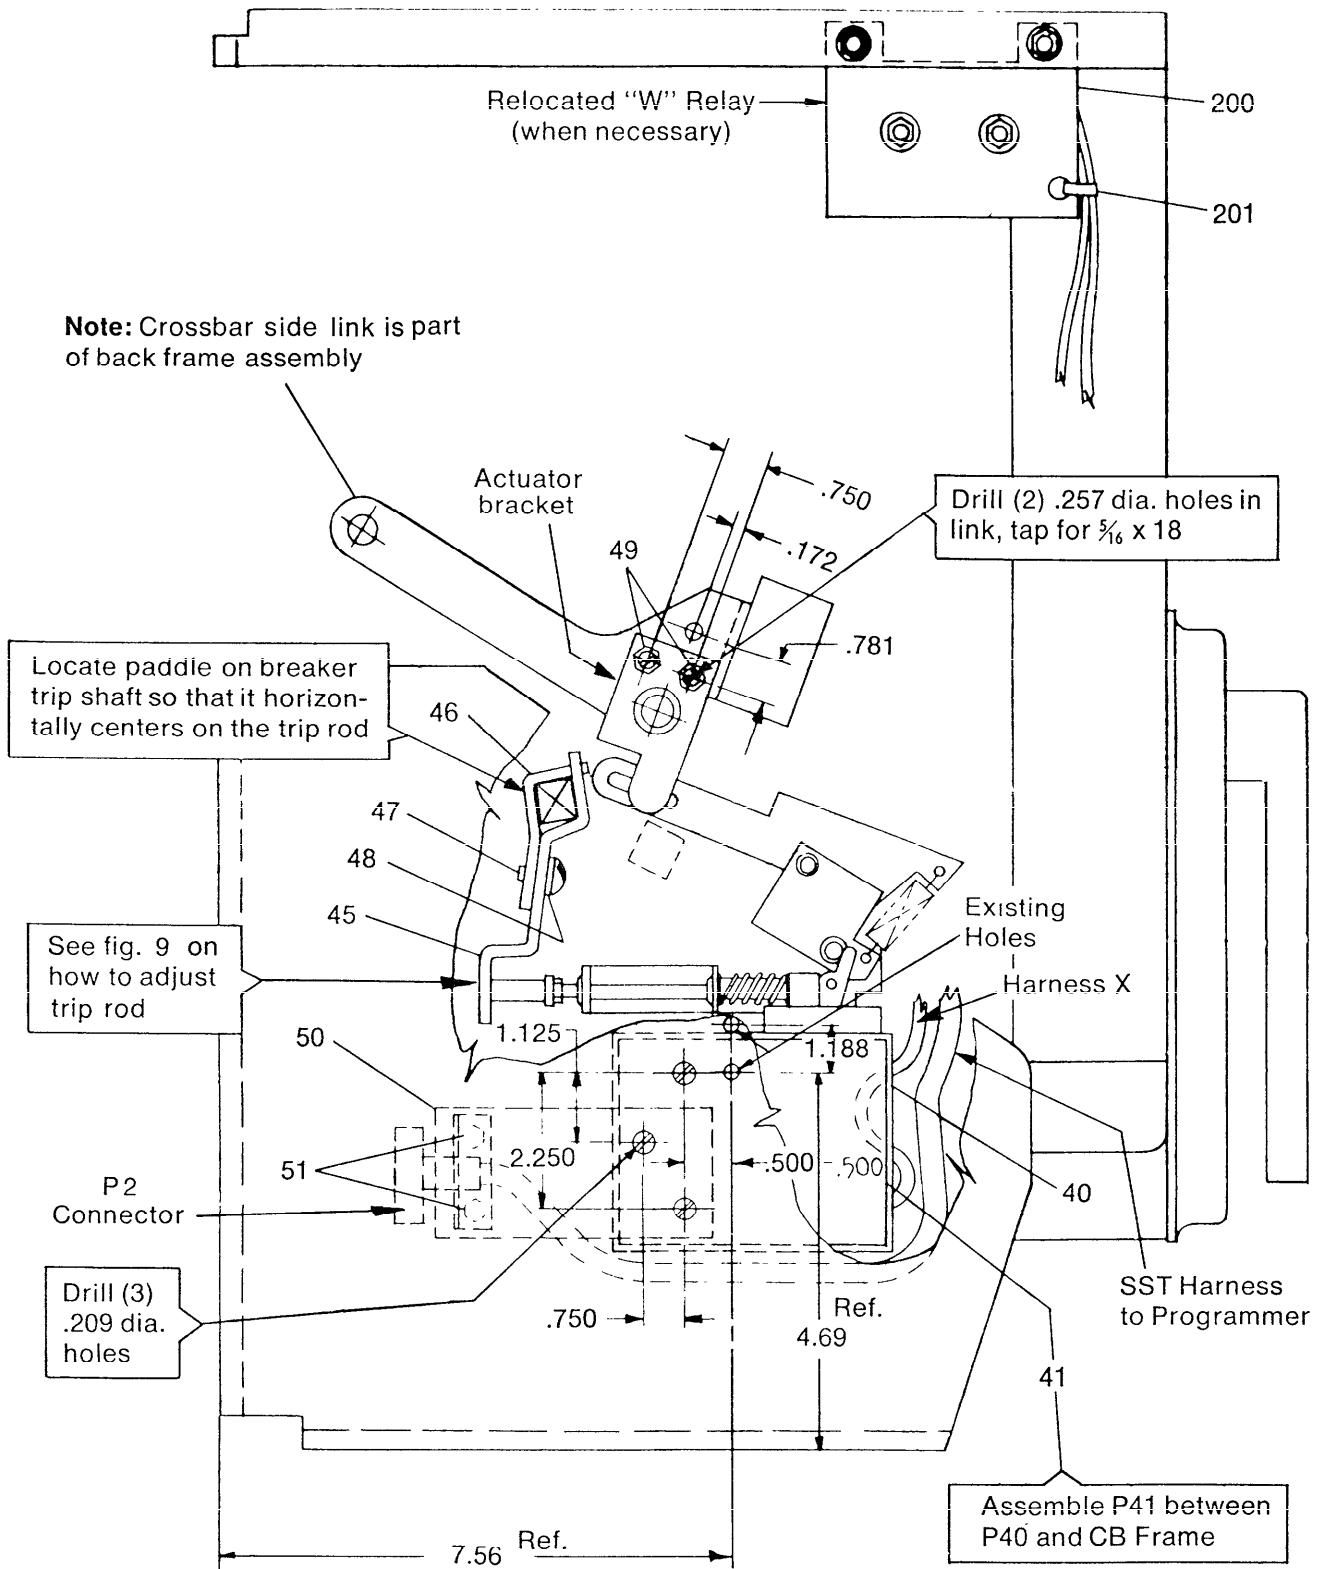

Fig. 6 — Side view of front frame showing mounting of flux shift trip device.
- a. Layout and drill three (3) .209 DIA. mounting holes in the left side of the front frame as shown in Fig. 6.
- c. Identify the programmer wire harness (part 141 or 143) and mount its male connector (P2 on Fig. 6) to support plate 50 using screws 51.
- e. Mount trip paddle 45 onto the breaker trip shaft per Fig. 6. Adjust the length of the trip rod on the flux shift trip device per Fig. 9. A front frame with flux shift trip device mounting completed is shown in Fig. 10.
1. Identify the crossbar side link on the left side of the breaker's left pole. layout, drill and tap the two .257 DIA. holes in it as shown in Fig. 6. These holes are used later to attach the trip device actuator bracket (Step V2).
2. Referring to Figs. 6 and 7, attach the flux shift trip device actuator bracket to the left pole crossbar side link (previously drilled in Section IV). Be sure it clears the buffer stud as described in Fig. 9.